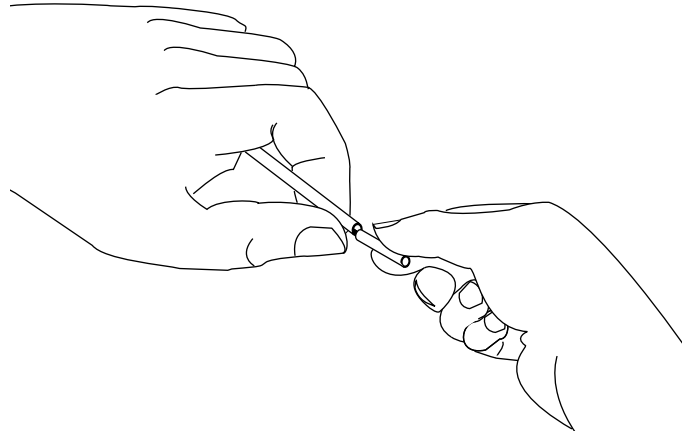

Figure 5
- Carefully flex the tube to break it at the score point. The break should be clean and free of rough edges (Figure 5).